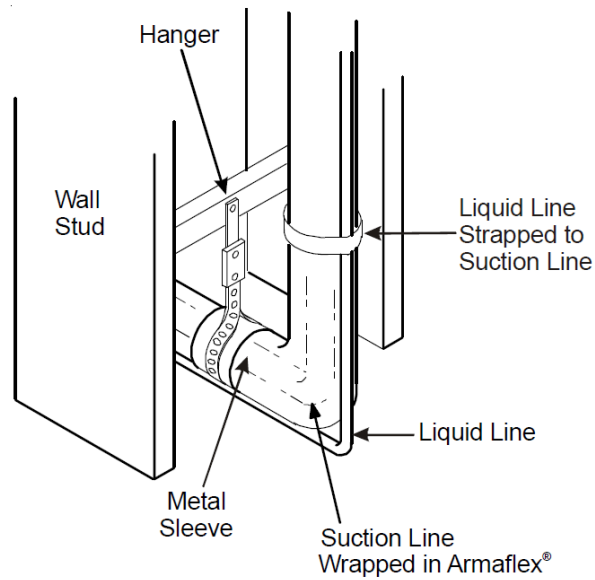

Figure 1-1
10. Vibration and Noise: In long line applications, refrigerant tubing is highly prone to transmit noise and vibration to the adjoining structure. Use adequate vibration-isolating hardware when mounting line set to structural members. See Figures 1-1, 1-2 and 1-3 for example of proper mounting.